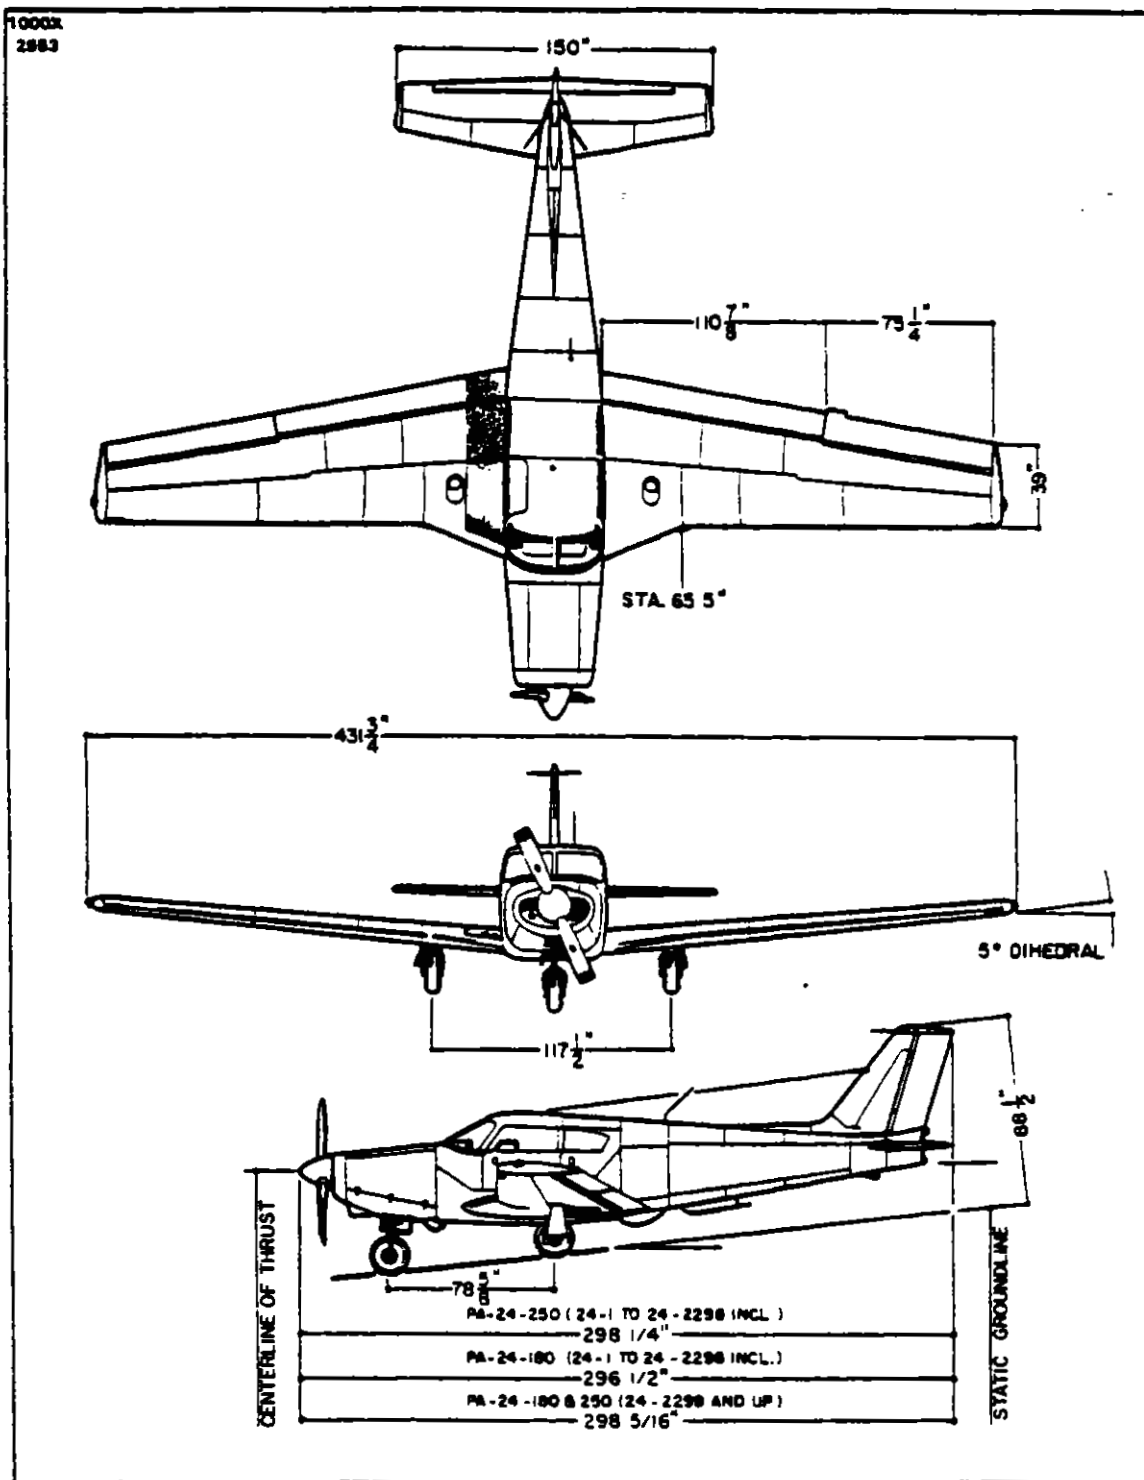

FIGURE 2-1. THREE-VIEW OF COMANCHE PA-24-180 and PA-24-250
**2-2. Dimensions.** The principal airplane dimensions are shown in Figures 2-1 thru 2-5 and are listed in Table II-1